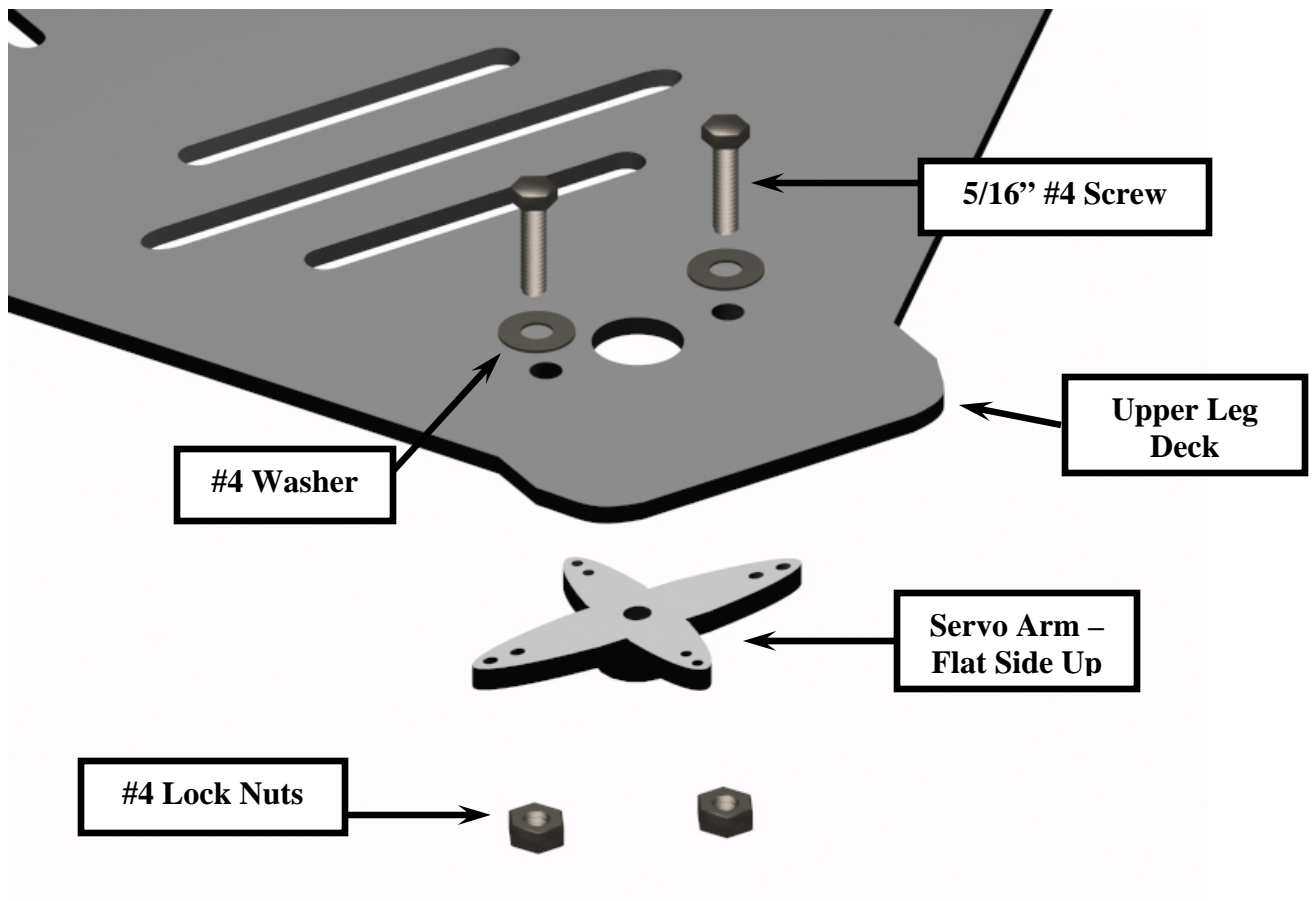

Figure 28: Upper Deck – Servo Arm Installation
- Using (2) 5/16" #4 screws, washers and lock nuts, install the servo arm to the upper deck ensuring that the flat side is mounted to the upper deck as shown in Figure 28.